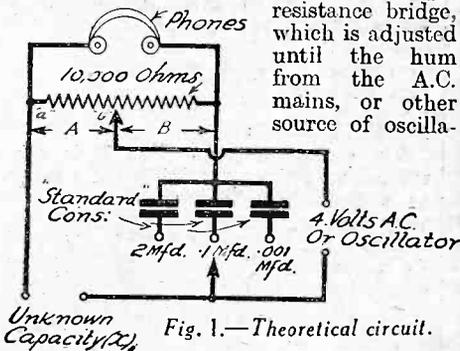

Fig. 1.—Theoretical circuit.
It is not intended to discuss the theoretical circuit, which is given in Fig. 1, but for those who are interested it is sufficient to say that it consists of a simple resistance bridge, which is adjusted until the hum from the A.C. mains, or other source of oscillation,
- A = the resistance between the points "a" and "b" in ohms. See Fig. 1.